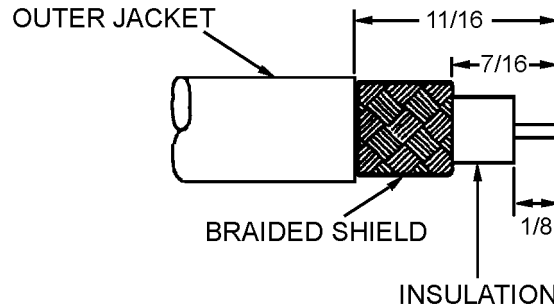

Figure 42. Strip Cable
a. As shown in Figure 42, cut cable end square with wire/cable cutters. Strip 11/16-inch of cable jacket, 7/16-inch of braided shield, and 1/8-inch of insulation from center conductor. Twist center conductor to prevent splayed wire strands.